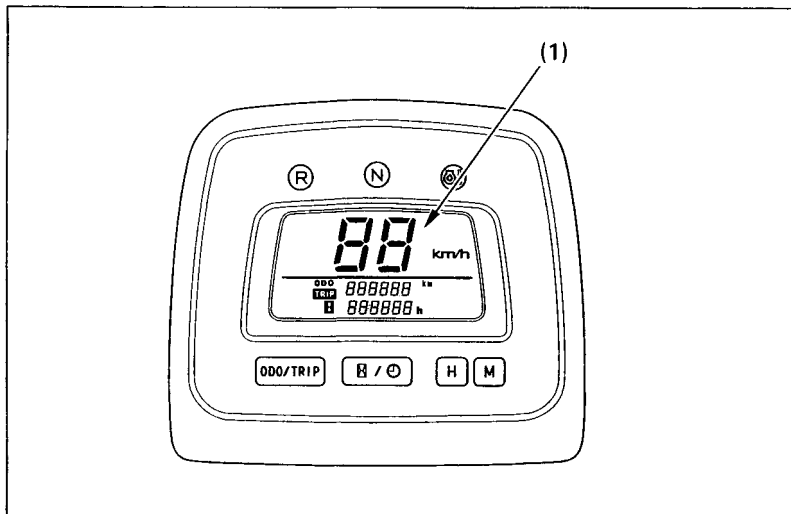

Fig. 2-16 (1) Multi-function display
When the ignition switch is turned I (ON), the display (1) (Fig.2-16) will temporarily show all the modes and digital segments so you can make sure the liquid crystal display is functioning properly.